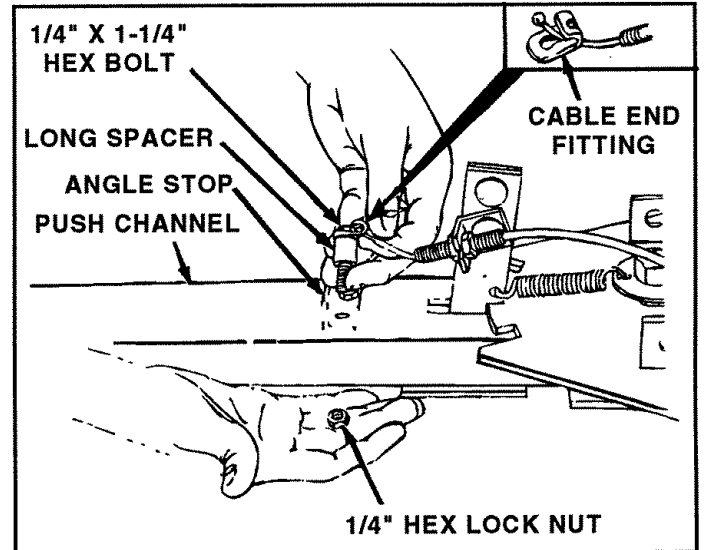

FIGURE 8
- Attach cable end fitting and long spacer to right hand hole in angle stop and channel using 1/4" x 1-1/4" hex bolt and 1/4" hex lock nut. **Tighten both 1/4" hex lock nuts that secure the angle stop to the channel.** See figure 8. **NOTE: Keep cable and fitting in alignment with cable mount bracket when tightening nuts.**